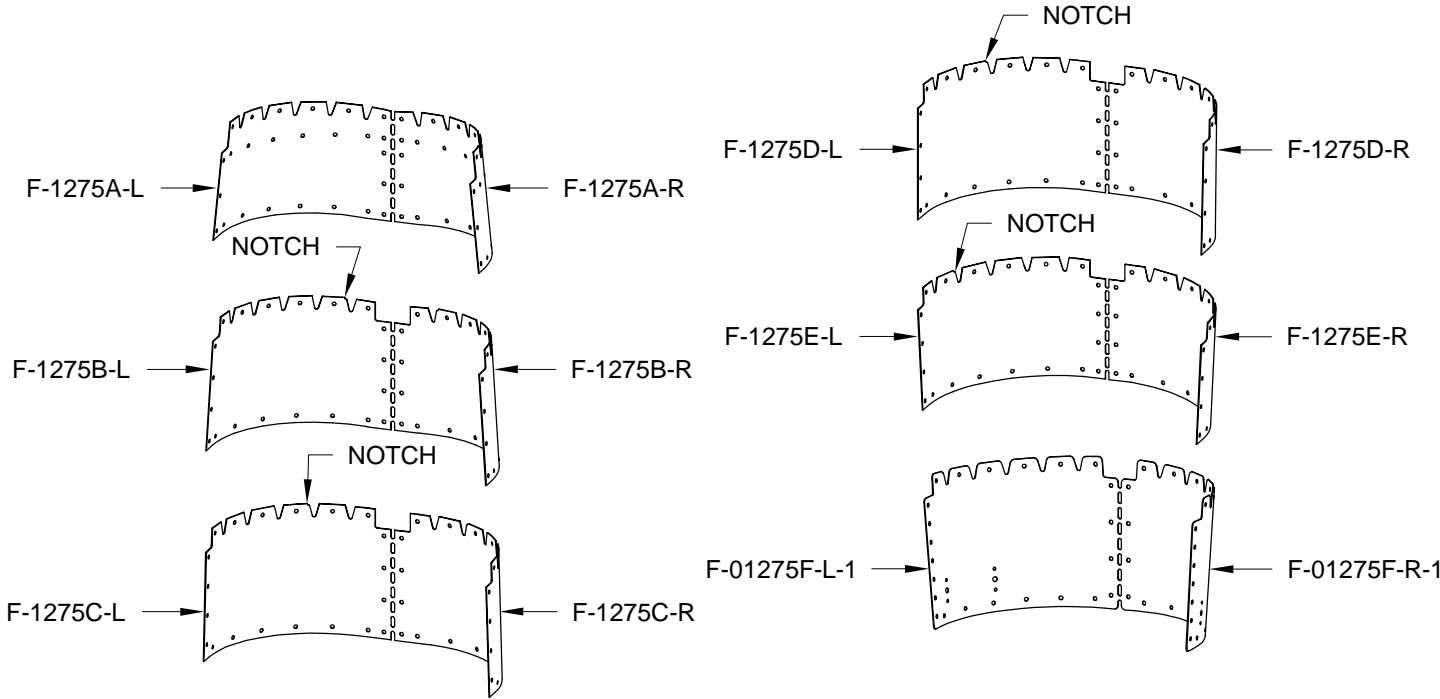

FIGURE 1: SEPARATING FUSELAGE CORNER SKINS
Step 1: Separate F-1275A, B, C, D, E, and F-01275F-1 Fuselage Corner Skins along the center perforations. Notches in called out tabs differentiate the four similar parts as shown in Figure 1.